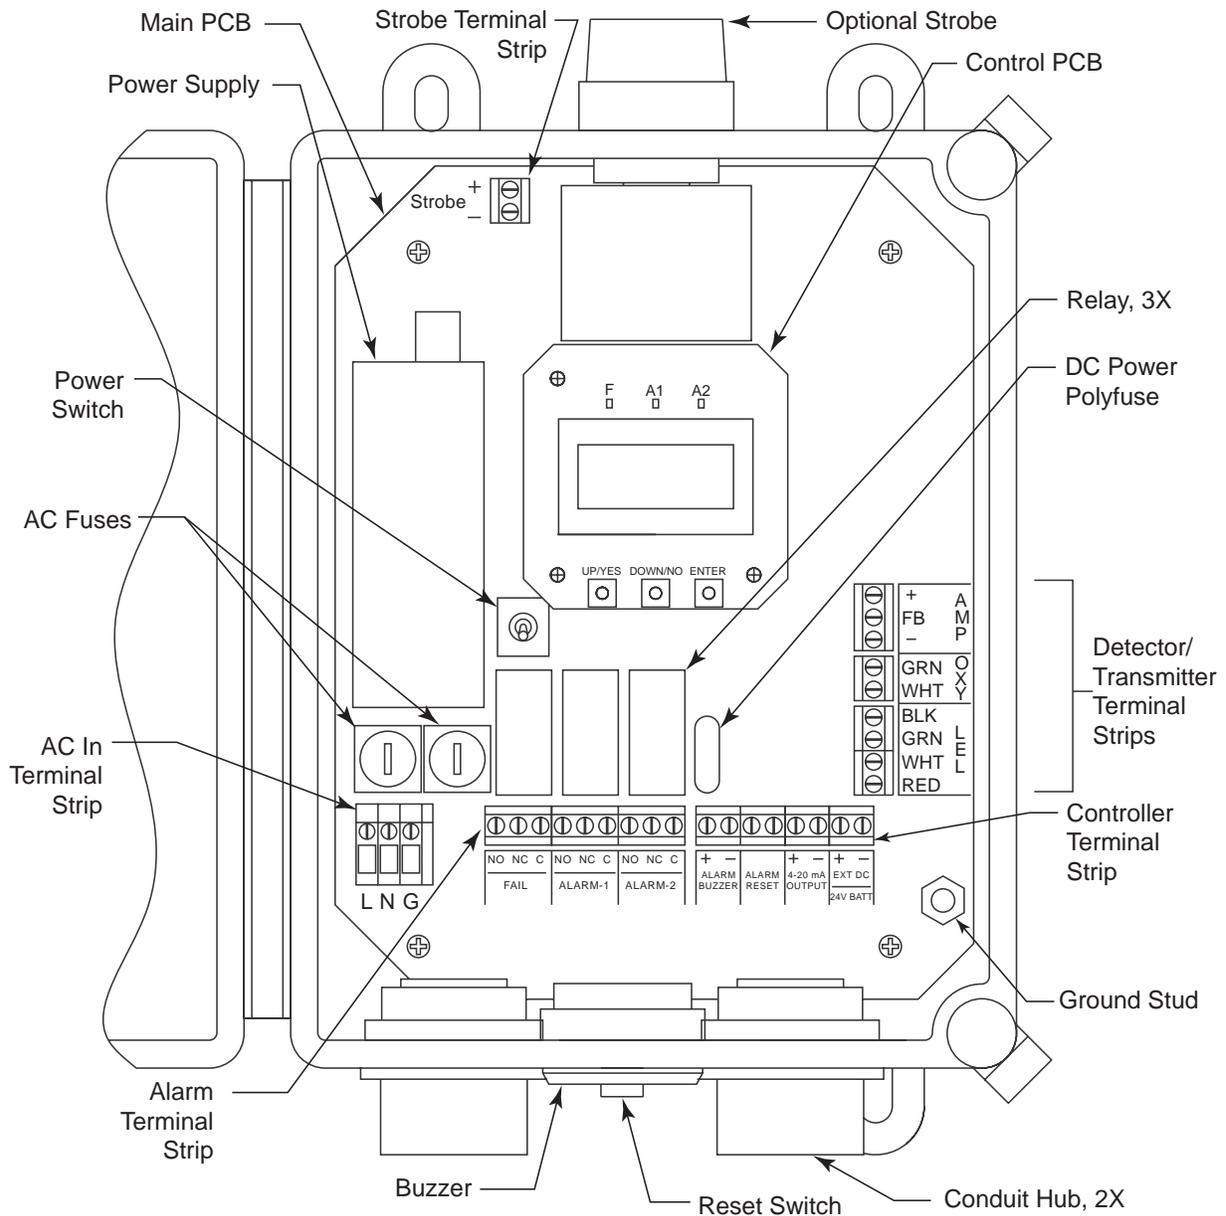

Figure 1: Beacon 110 Component Location
- **Alarm Terminal Strip.** The 9-point alarm terminal strip is located along the bottom edge of the main circuit board to the right of the AC in terminal strip (see Figure 1). It facilitates wiring external alarm devices (horn, strobe, etc.) to the alarm relay contacts and includes common (C), normally closed (NC) and normally open (NO) terminals for fail, alarm 1, and alarm 2.
- **Controller Terminal Strip.** The 8-point controller terminal strip is located along the bottom edge of the main circuit board to the right of the alarm terminal strip (see Figure 1). The controller terminal strip facilitates various internal and external wiring connections. Table 3 lists the function of each terminal.
- **Detector/Transmitter Terminal Strips.** Three adjacent terminal strips are located along the right side of the main circuit board above the controller terminal strip (see Figure 1). These three terminal strips facilitate wiring connections to a detector or a 4 - 20 mA transmitter. The lower 4-point terminal strip is labelled **LEL** and is used to wire a combustible detector. The middle 2-point terminal strip is labelled **Oxy** and is used to wire an oxygen detector. The top 3-point terminal strip is labelled **AMP** and is used to wire 4 - 20 mA transmitters or direct connect preamp type detectors. Although terminal strips are present for various types of detectors, only one detector head at a
The power switch is located to the right of the power supply and above the relays (see Figure 1). The power switch turns the incoming AC power source on and off at the Beacon 110. When the switch is up, the power switch is on.
The Beacon 110 includes three active status LEDs that are located above the display (see Figure 1). Two LEDs, labelled RX and TX, to the right of those described below, are not active.
4. Locate the 3-point AC in terminal strip in the lower left corner of the main PCB (see Figure 1). The terminals are labelled L, N, and G.